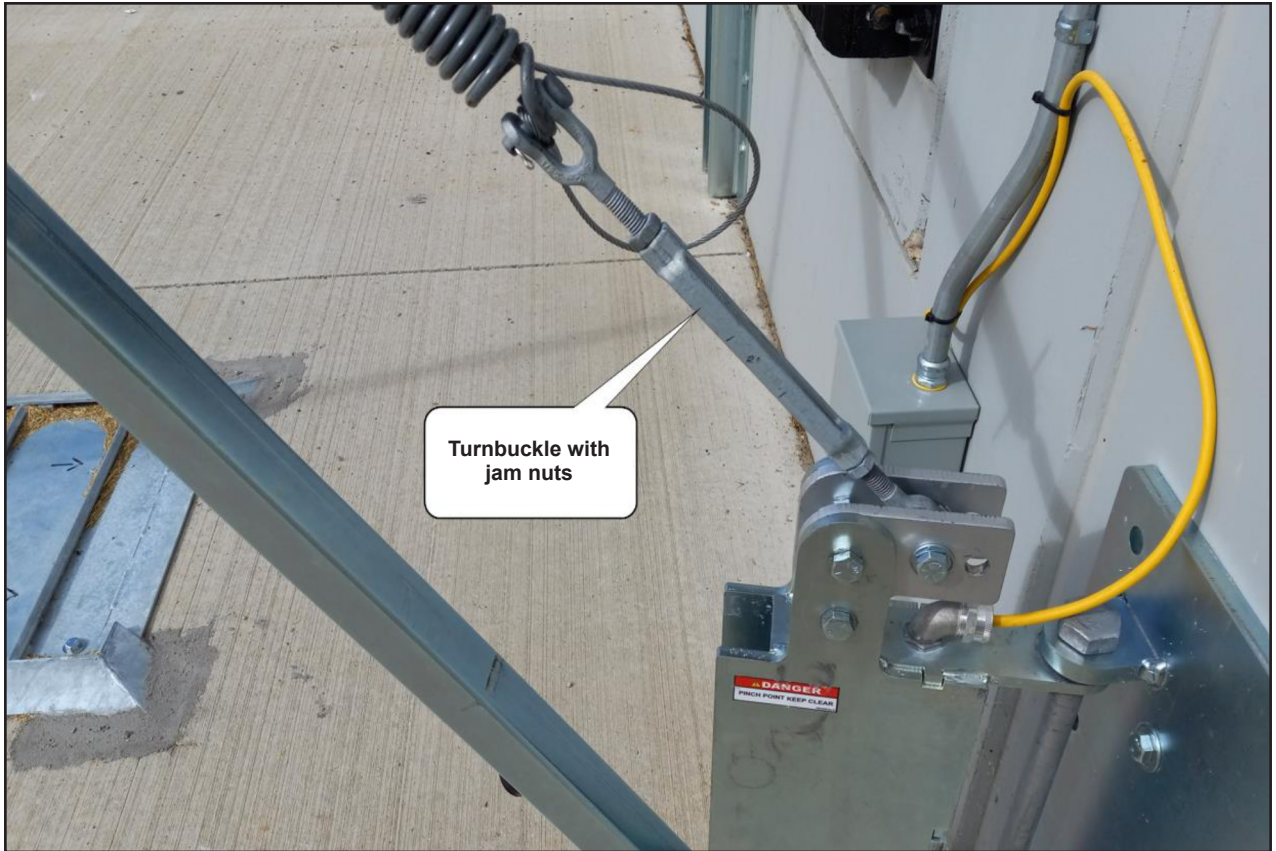

Figure 17
2. Adjust the spring tension with the turnbuckle, shown in **figure 17** on page 21. Loosen the jam nuts then adjust the turnbuckle to the desired tension. The arm should retract towards the wall within 5 seconds or less.